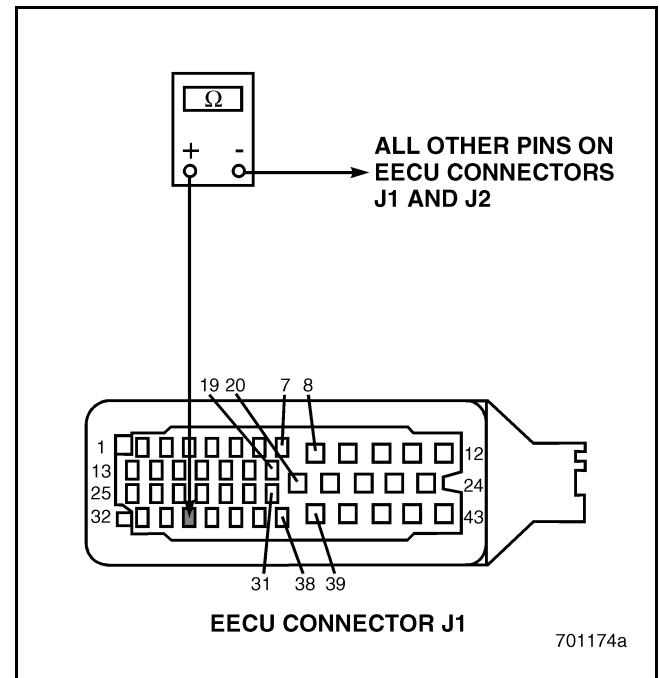

Figure 15
4. Check for continuity between EECU harness connector J1 pin 34 (signal line) and all other pins in EECU harness connectors J1 and J2 (see Figure 15).